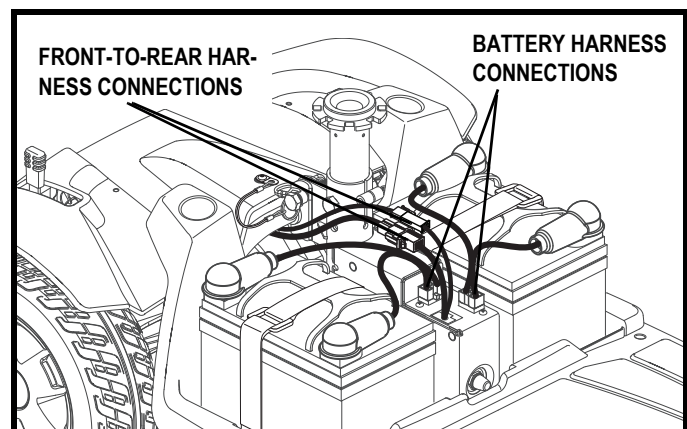

Figure 22. Harness Connections
4. Unplug both battery harnesses by depressing the tabs and then pulling each harness straight up. **See figure 22.**
6. Disconnect both front-to-rear harnesses. **See figure 22.**
7. Connect both battery harnesses. See **figure 22**.